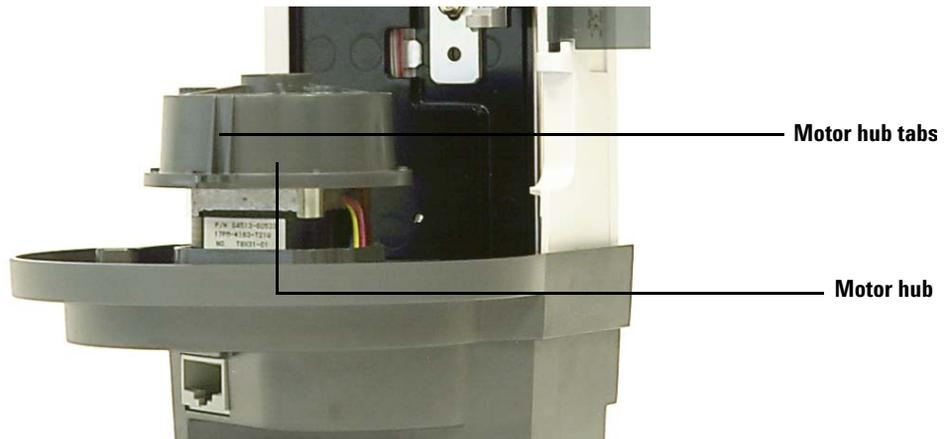

Figure 94 Motor hub tabs facing outward
- 9 Rotate the motor hub so the tabs on the motor hub face outward (Figure 94).